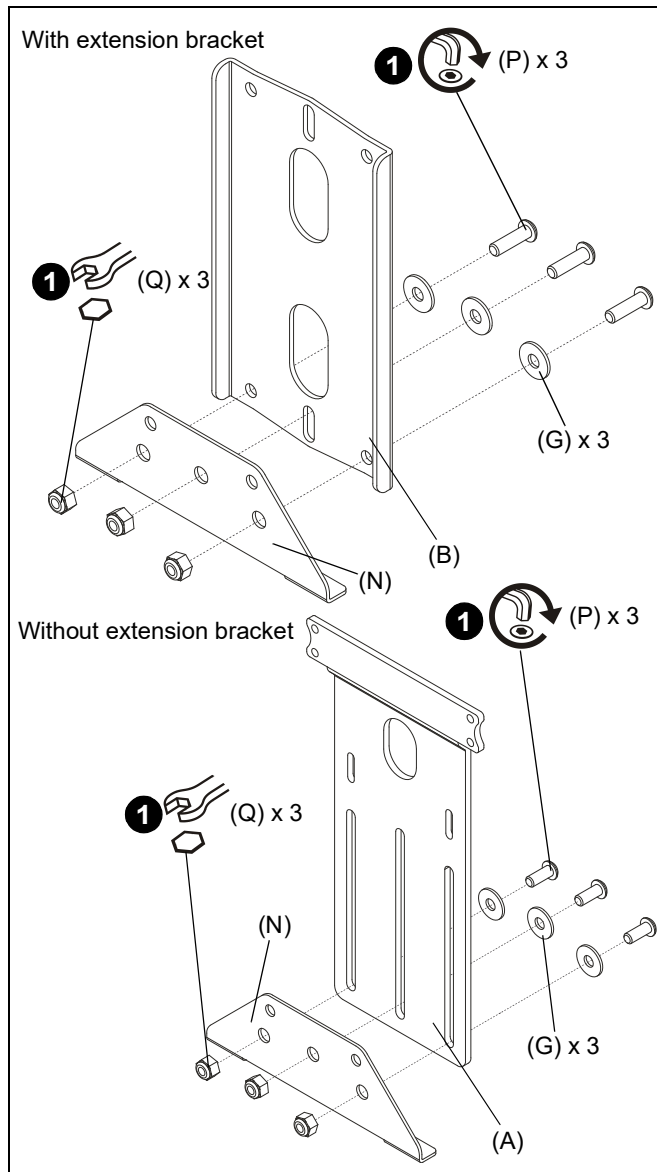

Figure 1
1. Use three 1/4-20 x 7/8" button head cap screws (P), three 1/4" washers (G) and three 1/4"20 lock nuts (Q) to connect attachment bracket (N) to either extension bracket (B) or hanging bracket (A). (See Figure 1)